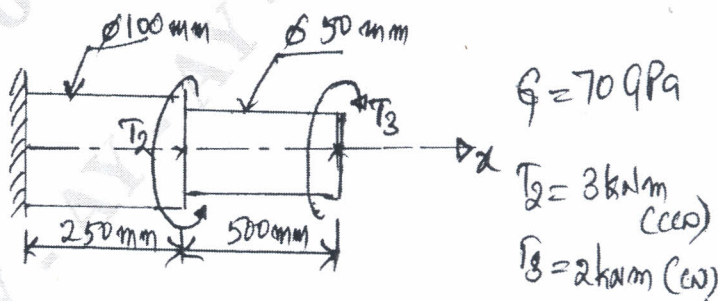

Fig.Q.6(b)
b. Determine the angle of twist at each end of section and shear stress in each section for torsion system shown in Fig.Q.6(b). (14 Marks)